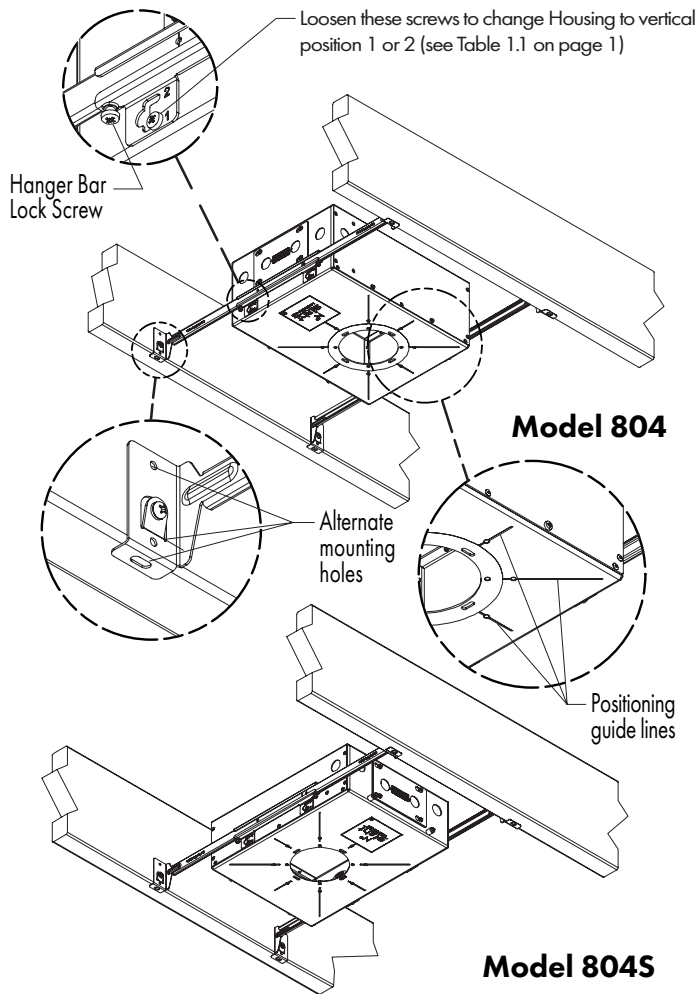

FIG 3.1 Fastening Housing to joists
STEP 1 Spread Hanger Bars to approximate joist spacing. Temporarily secure Lock Screws to keep Housing from sliding along Hanger Bars – **FIG 3.1 & 3.2.**
STEP 2 Secure Housing & Hanger Bar assembly to Joists using either the fasteners supplied on Hanger Bars or fasteners through alternate mounting holes – **FIG 3.1.**
STEP 3 Reposition Housing along Hanger Bars as needed. Use guide lines to help locate Housing relative to nearby walls or other fixtures – **FIG 3.1 & 3.2.**